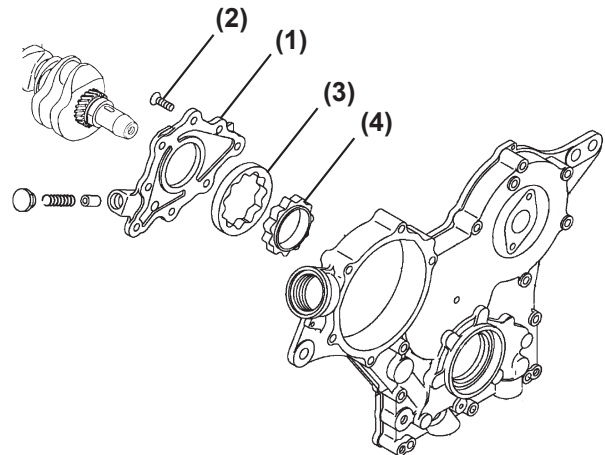

Figure 4-5-5
3. Remove the seven oil pump cover screws (**Figure 4-5-5, (2)**).
4. Remove the oil pump cover (**Figure 4-5-5, (1)**) from the gear case.
5. Remove the outer rotor (**Figure 4-5-5, (3)**) and inner rotor (**Figure 4-5-5, (4)**) from the gear case cover.